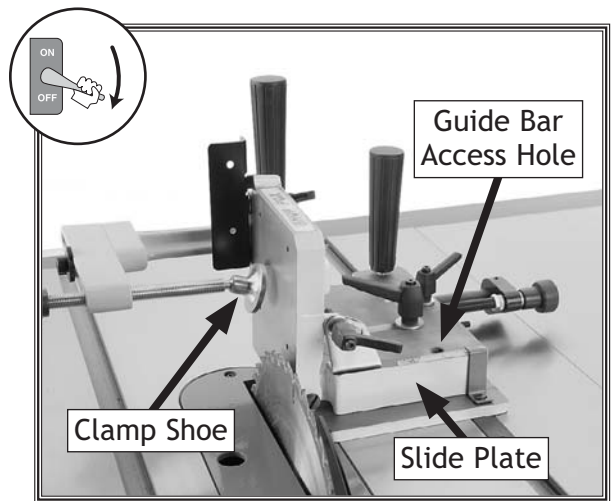

Figure 15. Checking for side support parallelism with the saw blade.
6. Loosen the slide plate and micro-adjust lock levers, then use the clamp handwheel to move the clamp screw and shoe out of the way for the next step (see **Figure 15**).
8. Use the micro-adjust knob to align the guide bar access hole of the slide plate over the cap screw of the guide bar, then loosen the cap screw (see **Figure 15**).